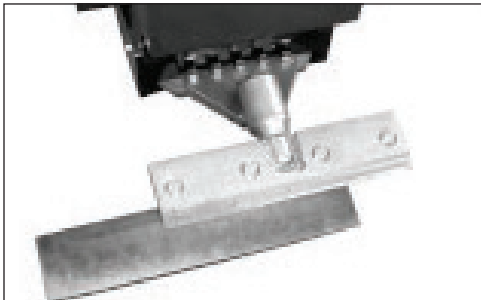

FIG. 4.2
- Blades can be offset in the cutting head (Figure 4.2) for easier access to toe kicks or for removal along the wall.